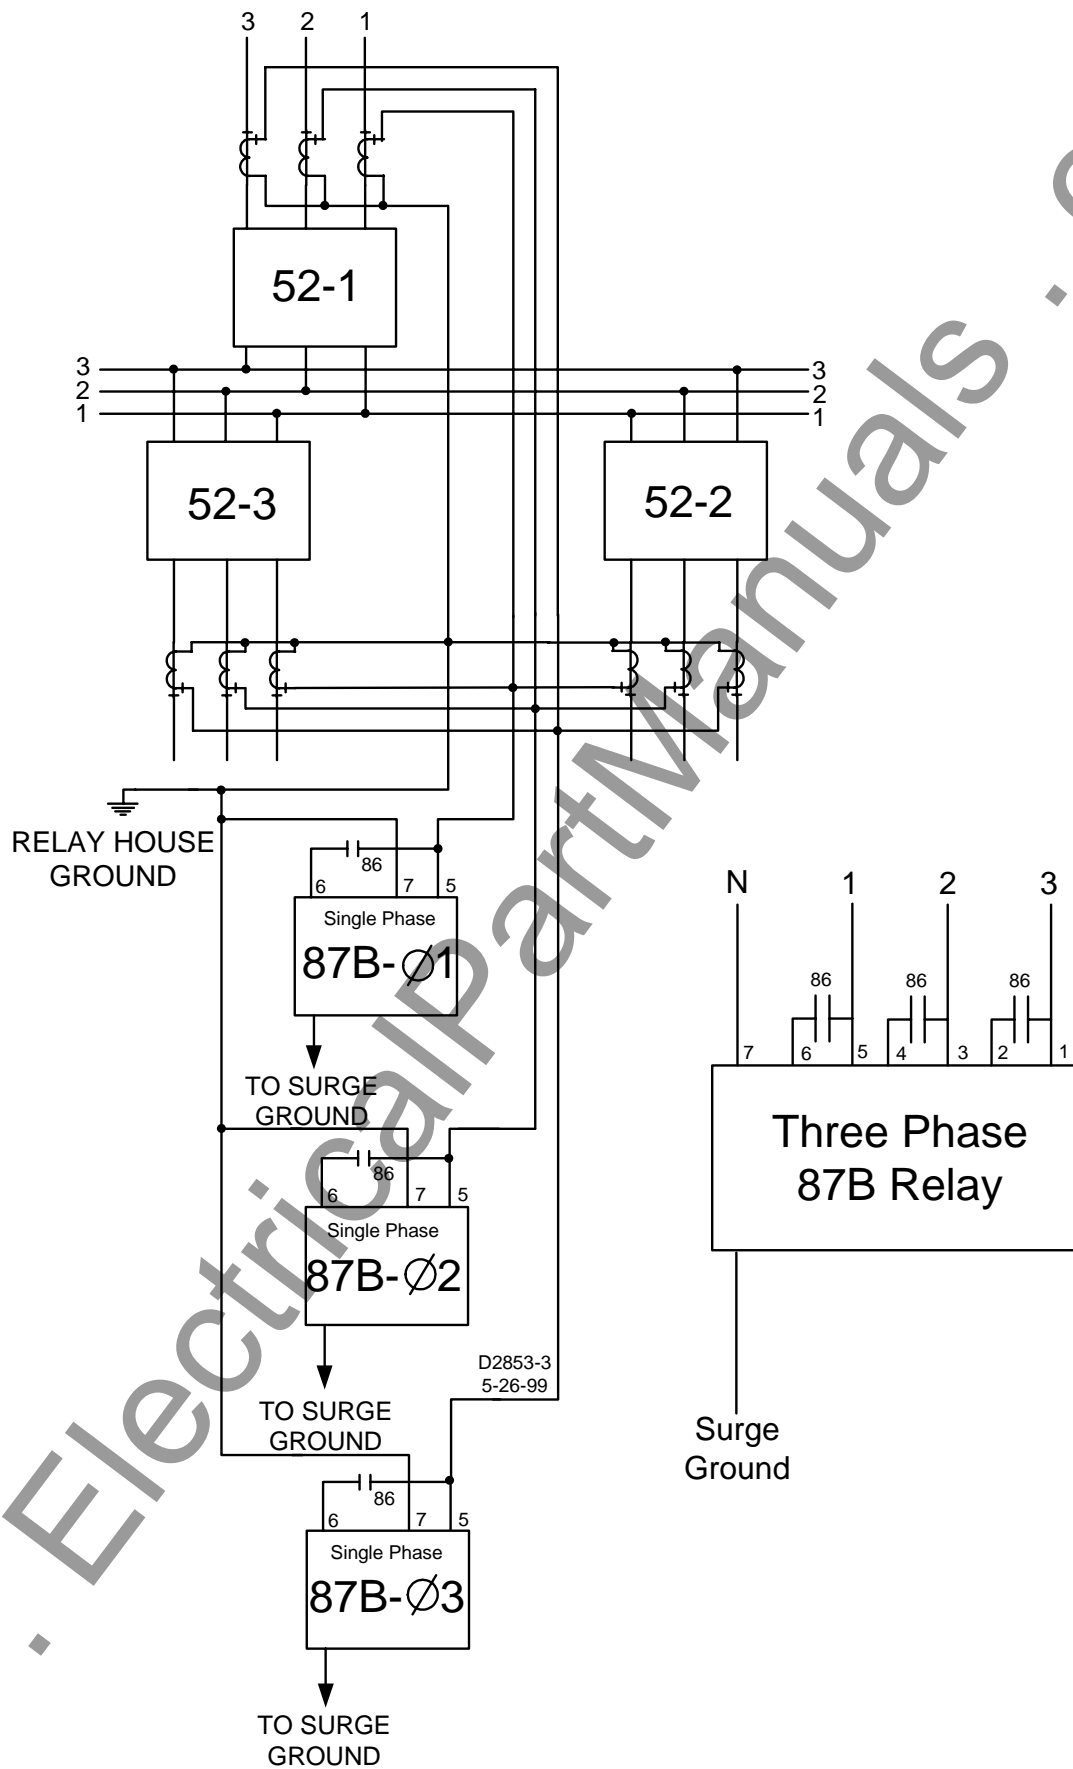

Figure 2-1. External AC Connections for Bus Protection
| Figure 2-1. External AC Connections for Bus Protection | 2-3 |
Three single-phase BE1-87B relays or one three-phase BE1-87B relay and an auxiliary lockout relay (86), provide a complete multi-phase and ground bus fault protection package. Typical external connections to the relays are shown in Figures 2-1 and 2-2. The connections are illustrated for a bus with three circuits, but the protection can easily be extended if more circuits are added to the bus. For additional circuits, it is only necessary to connect the CTs associated with the added circuits to the respective junction points and to connect the contacts of the lockout relay in the respective trip circuits. The relay voltage tap setting is based on the maximum voltage that can be developed across the differential junction point during an external fault. Calculation of the maximum voltage is easily made and methods for doing so are given in the paragraph under calculation of settings. A sample calculation for a bus differential scheme is also provided.
The BE1-87B high impedance, differential relay operates on the instantaneous value of CT secondary voltage to which the relay is connected. All the CTs in the differential circuit must have the same turns ratio. If all CTs have the same turns ratio, the voltage developed across the relay during normal system conditions is very small. The diagram in Figure 2-1 illustrates typical external ac connections to the relay for use in a bus differential scheme. As shown in the diagram, a typical differential connection is used consisting of the CT circuits from each bus device connected in wye and paralleled at one location (summing point) on a per-phase basis. Three single-phase BE1-87B relays or one three-phase relay provide complete protection of the bus. The relay will generate a trip output when the instantaneous